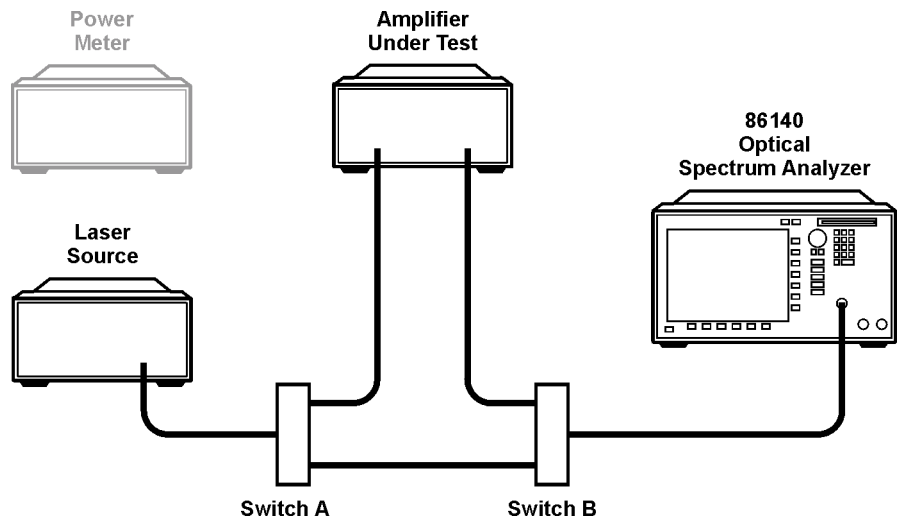

Figure 1-7. Amplifier Measurement
- 13** After measuring and verifying the path offsets, you can connect the amplifier under test as in as in Figure 1-7.